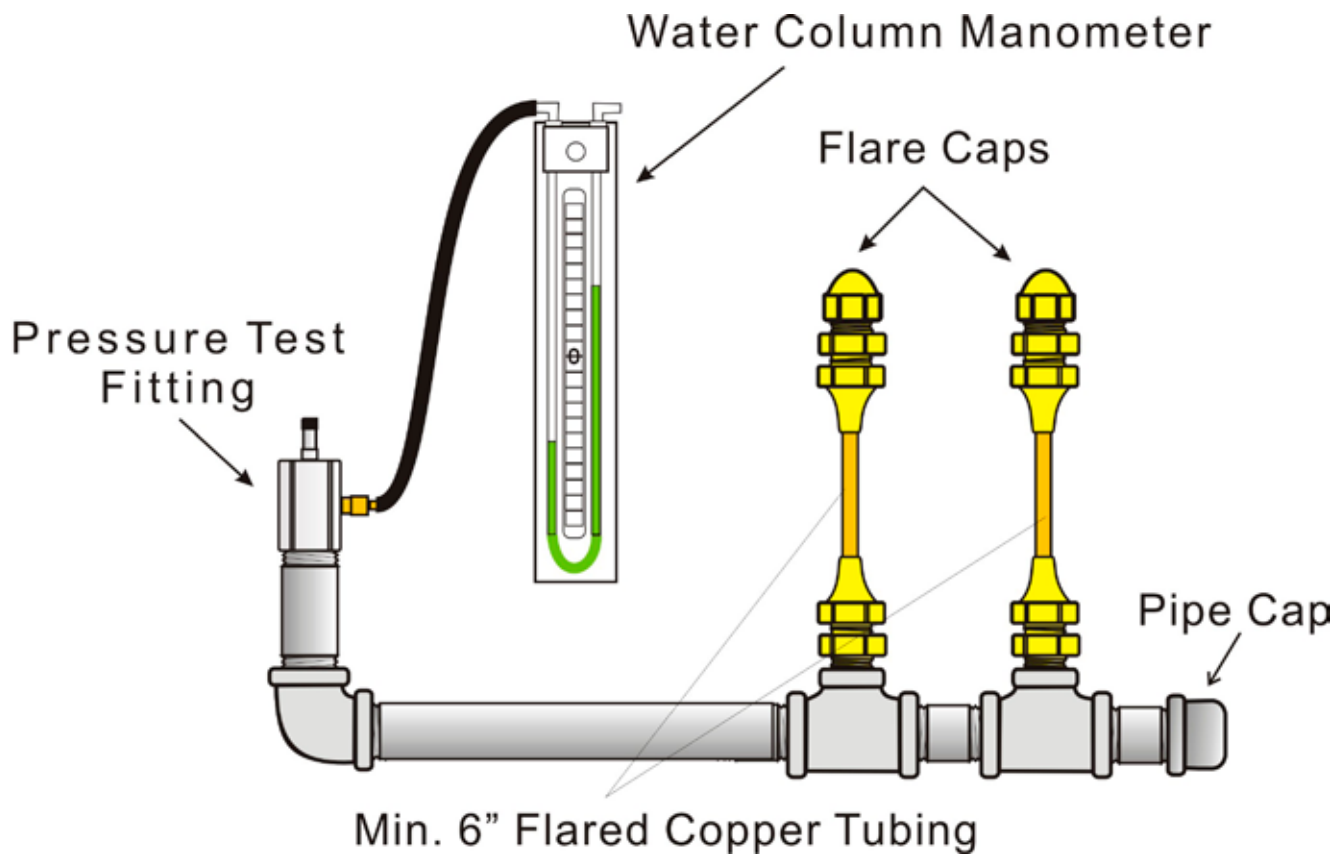

Figure 1. Student Shop Assembled Piping Leakage Pressure Test
Given a piping assembly drawing (Figure 1 on the next page), cutting and flaring copper tubing, threading a pipe nipple, and assembling a steel pipe and copper tubing assembly
2. Obtain the necessary brass pipe-to-flare and flare fittings illustrated in Figure 1.